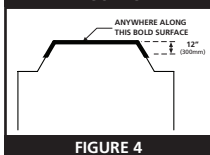

FIGURE 4
- Install Smoke Alarms on tray-shaped ceilings (coffered ceilings) on the highest portion of the ceiling or on the sloped portion of the ceiling within 12” (305mm) vertically down from the highest point (see figure 4).